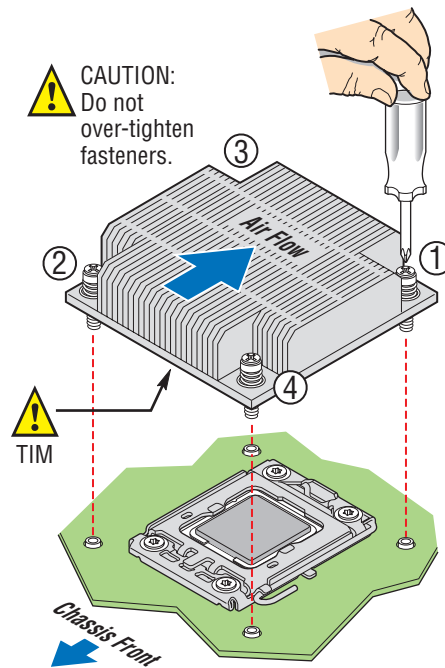

Figure 27. IU Reference Heat sink Assembly
4. Using a #2 Phillips* screwdriver, finger-tighten each fastener diagonally according to the white-circled numbers (see Figure 27).